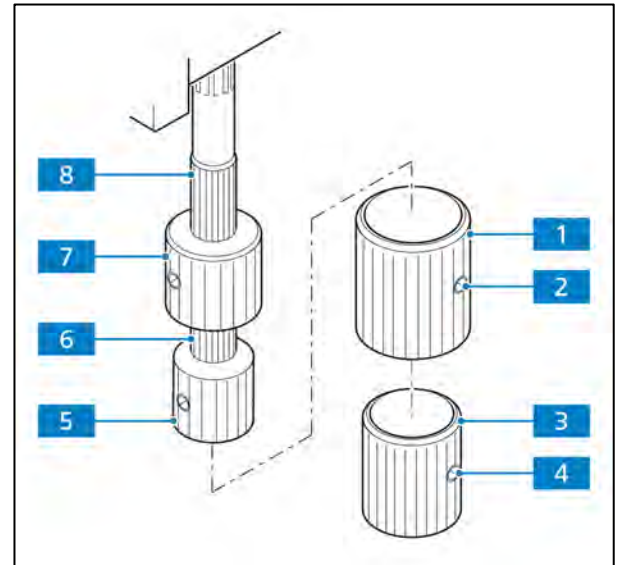

Fig. 3-14 Adjusting ergonomic drive
- Loosen both clamping screws (Fig. 3-14/4) on the lower additional sleeve (Fig. 3-14/3) and remove them by pulling them down. Then loosen both clamping screws (Fig. 3-14/2) on the upper additional sleeves (Fig. 3-14/1) and remove them by pulling them down as well.
- Remove the additional sleeves (Fig. 3-14/1 and 3) from the coaxial knurled knobs by loosening the clamping screws.
- Shift the X-coaxial knurled knob (Fig. 3-14/5) downward and the Y-coaxial knurled knob (Fig. 3-14/7) upward.
- Hold the X-coaxial knurled knob (Fig. 3-14/5) and turn the light-colored knurled ring above it (Fig. 3-14/6) to the right (increased smoothness) or left (decreased smoothness) until you reach the desired level.
- Hold the Y-coaxial knurled knob (Fig. 3-14/7) and turn the light-colored knurled sleeve above it (Fig. 3-14/8) to the right (increased smoothness) or the left (decreased smoothness) until you reach the desired level.